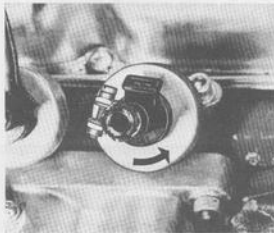

Fig. 2-190. Removing injector
3. Turn the lock ring, Fig. 2-190, anti-clockwise so that it loosens from the bayonet fitting. Pull out the injector.